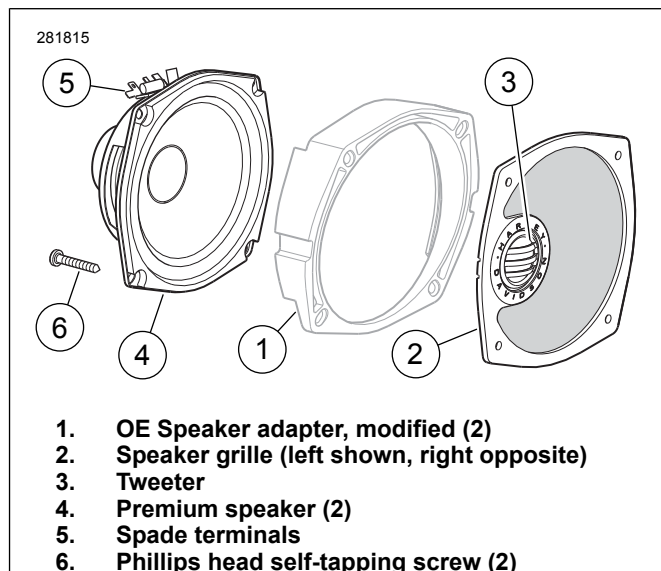

Figure 4. Boom! Audio Front Speaker Kit Components for Electra Glide and Trike
4. Align the mounting holes in the speaker, adapter and grille. Use the two longer TORX® screws removed earlier to fasten all three components to the inner fairing through the two top holes. See Figure 4. Use a new Phillips head screw (6) from the kit in the lower outboard hole, capturing the fairing support brace under the screw head. The lower inboard hole is not used.
See Figure 4. Position the correct new speaker grille (2) against the face of the adapter (1) as shown, with the thick edge of the adapter up, and the tweeter (3) to the outboard side of the vehicle. Feed the tweeter wires out between the grille and adapter on the outboard side. Position a new speaker (4) against the rear face of the adapter as shown, with the spade terminals (5) pointed up.